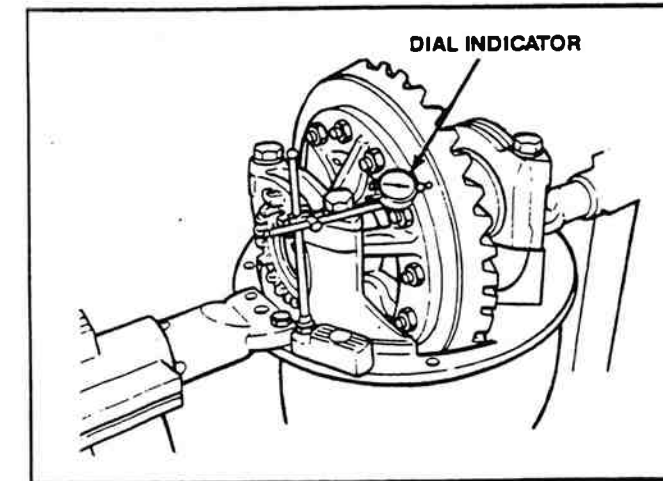

Figure 2-77. Positioning Of Dial Indicator.
2. Adjust the dial indicator so that the plunger or pointer is against the back surface of the ring gear (Figure 2-77).